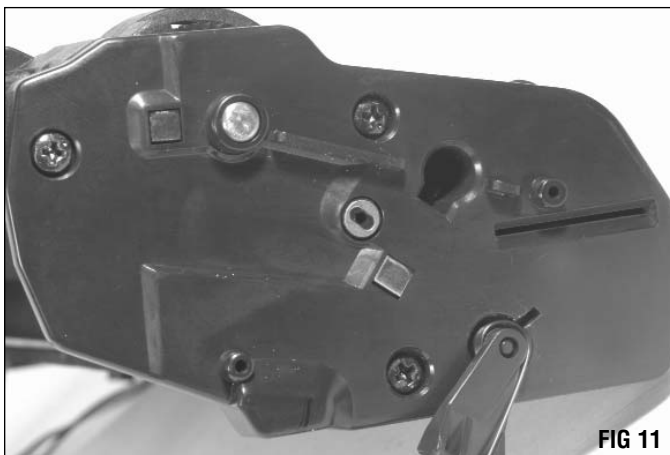

FIG 11
2. Use a Phillips screwdriver to remove the three screws from the spur gear side endplate (FIG 11). Remove the endplate.